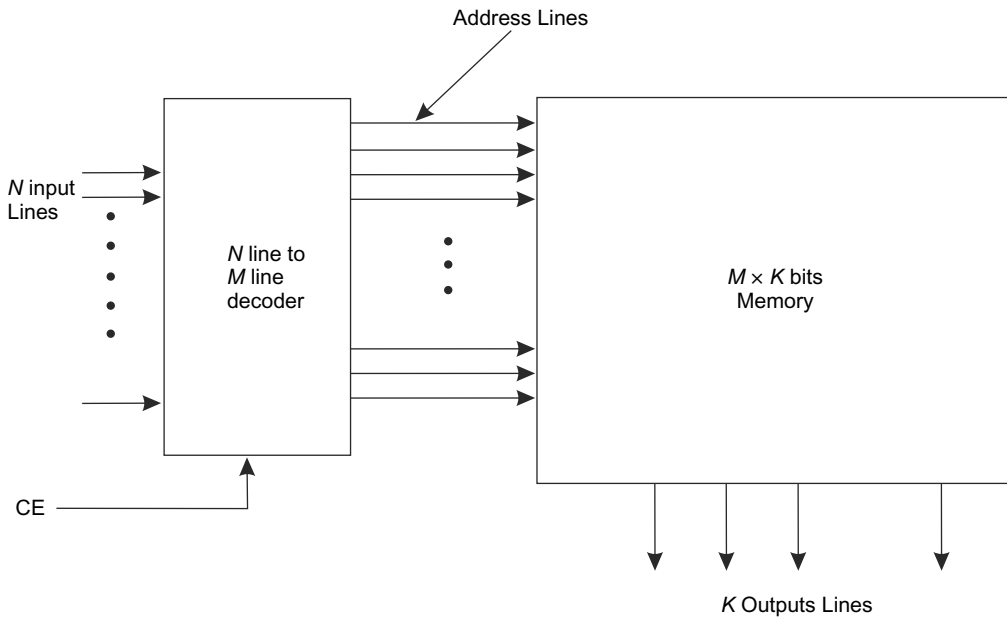

Fig. 8.3 Block diagram of $M \times K$ bits memory
Figure 8.3 shows the block diagram of a $M \times K$ bits memory structure. It has N bit input lines to locate an address of memory and each address line can store K bits. So the total number of bits in the memory is $M \times K$ bits. Each memory location is represented by address lines to locate M address locations. Here N bit inputs are required to locate M address locations. The relationship between address locations and input lines is $2^N = M$. To generate an address line, an N lines to M lines decoder is used. Actually, the decoder decodes M locations depending upon inputs. The number of locations and number of bits may be varied for different memories. When M is the number of locations and K is the number of bits in each location, the size of the memory is $M \times K$ bits. The size of commonly used memory devices are 64, 256, 512, 1024 (1K), 2048 (2K), 4096(4K), 16384 (16K) but the common values of word size are 1, 2, 4, 8, 12, 16, etc. The Chip Enable (CE) signal is used to enable the address lines for selecting a bit or a group of bits.